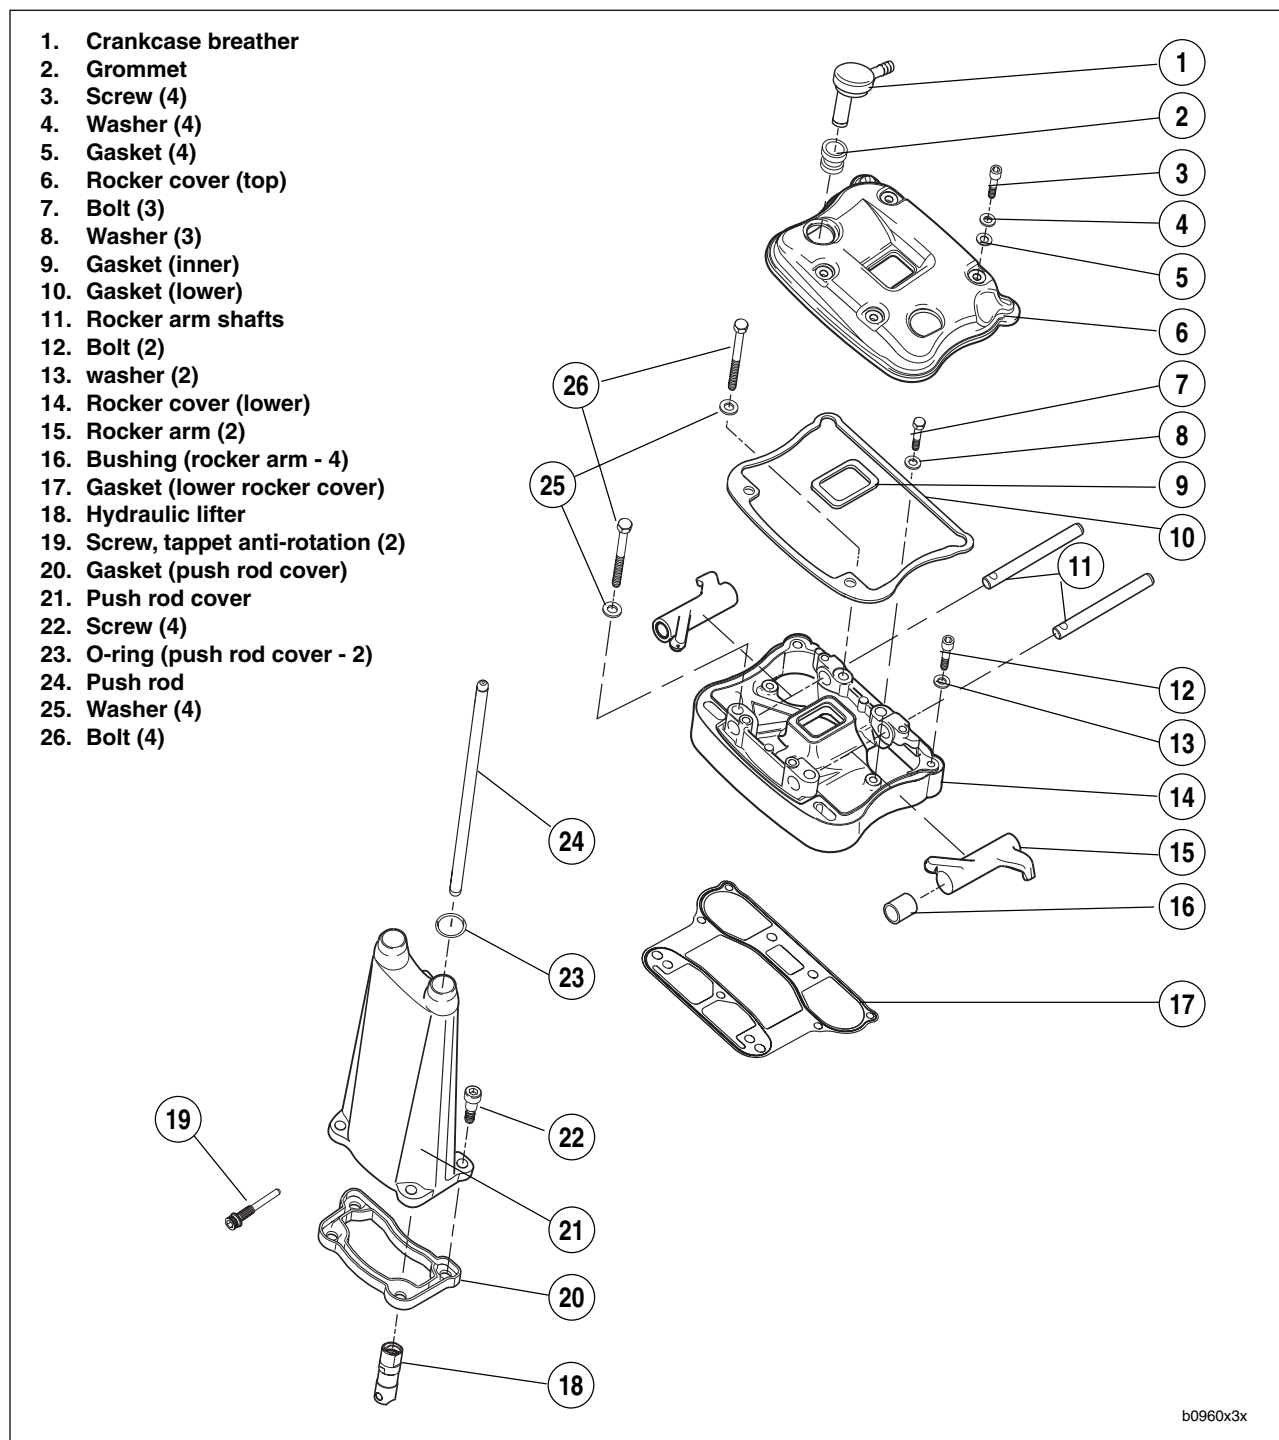

Figure 3-62. Rocker Arm and Push Rod Cover Assemblies
2. See Figure 3-62. Remove screws with washers and fiber cover seals. Discard fiber seals.
- a. Remove two screws and washers (1).
- b. Remove three bolts and washers (2).
- c. Loosen the four rocker arm fasteners (3) in 1/4-1/2 turn increments using a cross pattern in order to relieve valve spring pressure on the lower rocker box.
7. See Figure 3-62. Remove lower rocker cover.
13. See Figure 3-62. Remove push rod cover, gasket and valve tappets.